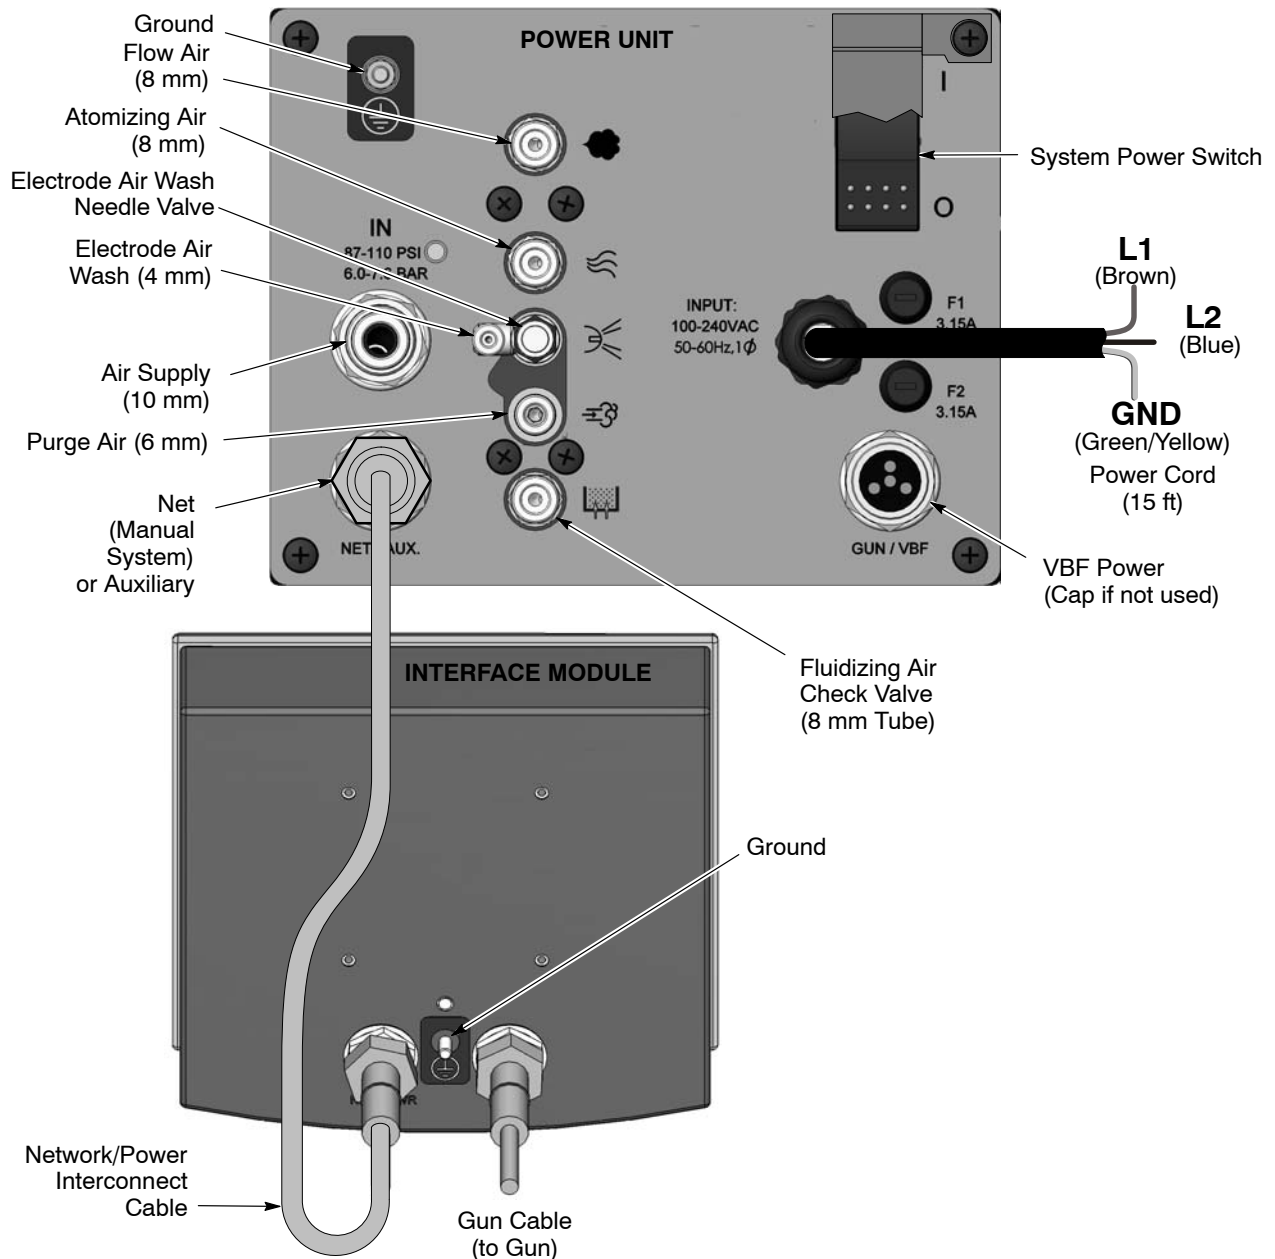

Figure 2-3 Encore Gun Controller Connections
1. See Figure 2-3. Connect the cable to the interface module receptacle. The cable plug and receptacle are keyed.